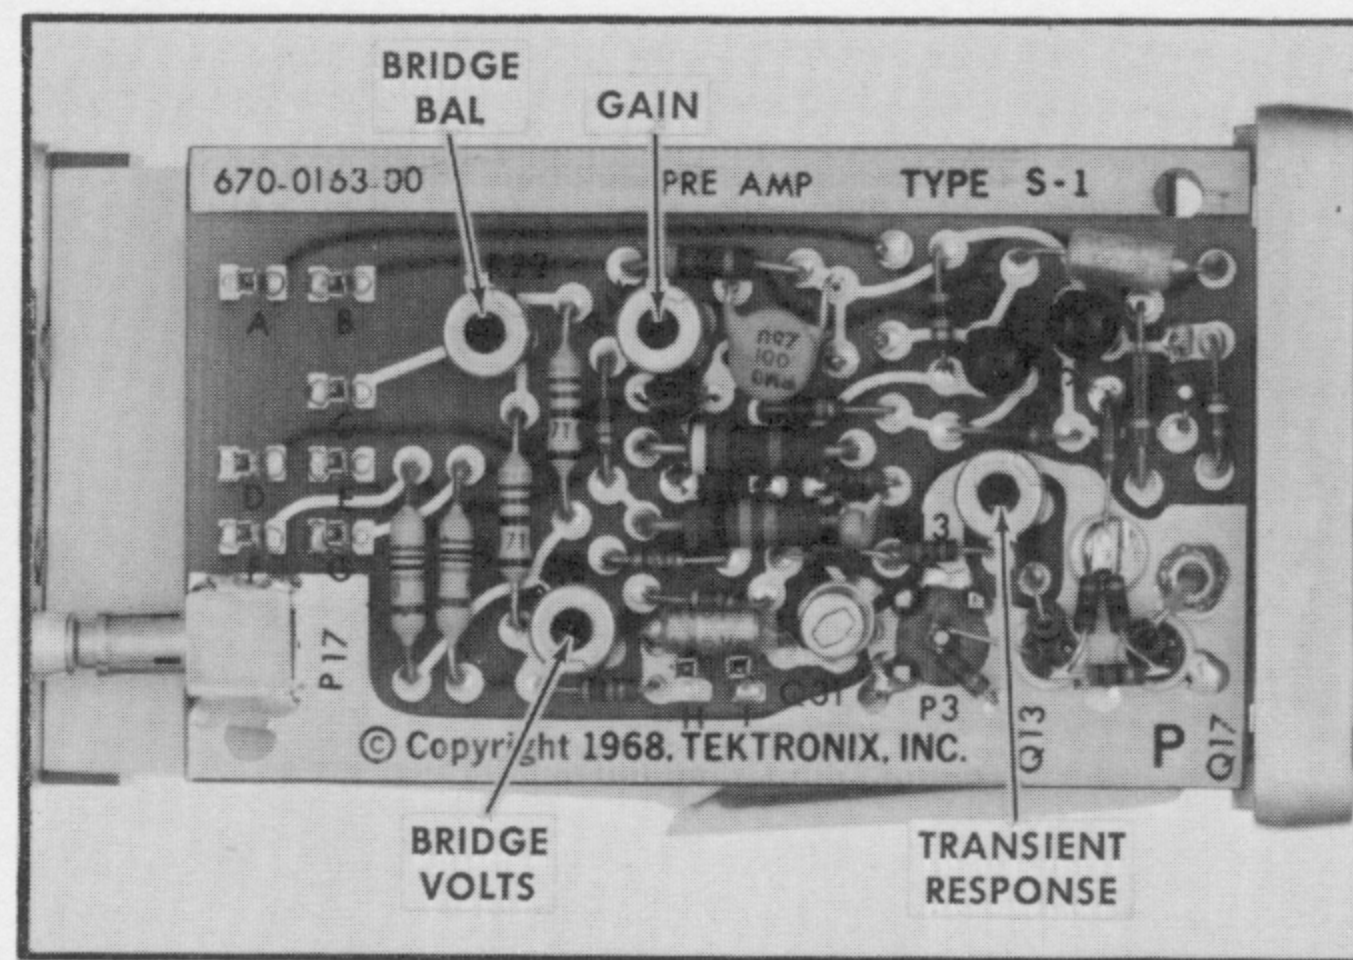

Fig. 7-9. Sampling Head left side control locations.
c. Change the Units/Div switch from 200 to 2 and adjust Bridge Bal R22, (shown in Fig. 7-9) for no more than one division of trace movement as the switch is changed from 200 to 2.